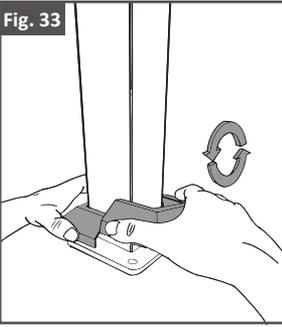

Fig. 34
4. Make sure one of the locking pins on the 2nd cover engage with the proper slot on the 1st cover piece. As shown in Fig. 34.